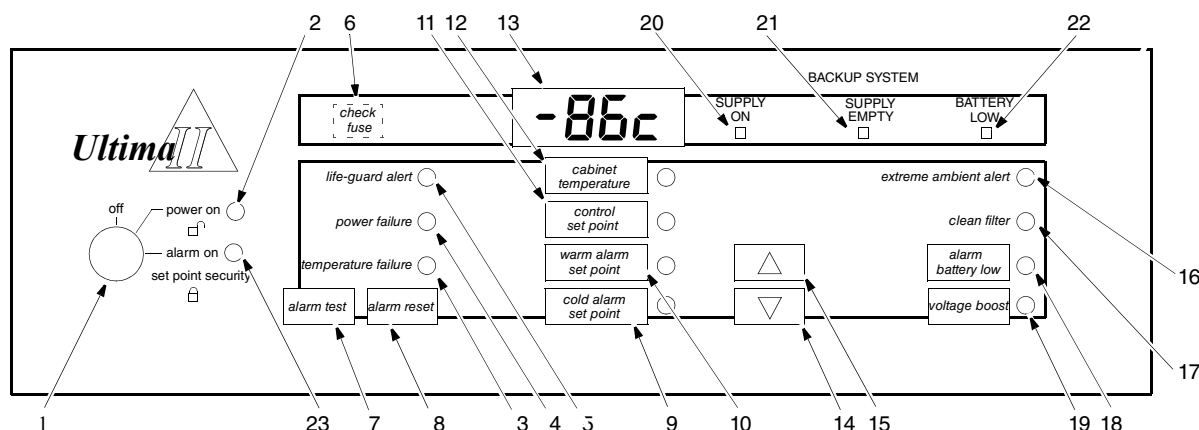

Figure 2. Revco Ultima II Series Control Panel with Optional Backup System
Before the initial start up, take some time to become familiar with the controls on your freezer. Figure 2 illustrates the Revco Ultima II Chest and Upright Freezer control panel.
Note: Figure 2 shows all possible functions. These functions vary depending on the model and options. You may not have all of the functions on your equipment. Revco Elite models do not include the Check Fuse indicator light (6) or the Voltage Boost light (19) as these models do not come standard with these options. Likewise, **only** Revco Ultima II models will include the Set Point Security feature (23), Life-Guard Alert indicator light (5), and the Extreme Ambient Alert indicator light (16). The CO₂ or LN₂ Backup System lights (20, 21, 22) represent status indicators for a built-in CO₂ or LN₂ backup system, which is optional on Revco Ultima II and Elite models.
Refer to Section 6.1 and Figure 2 on page 4 as you complete the following procedures.